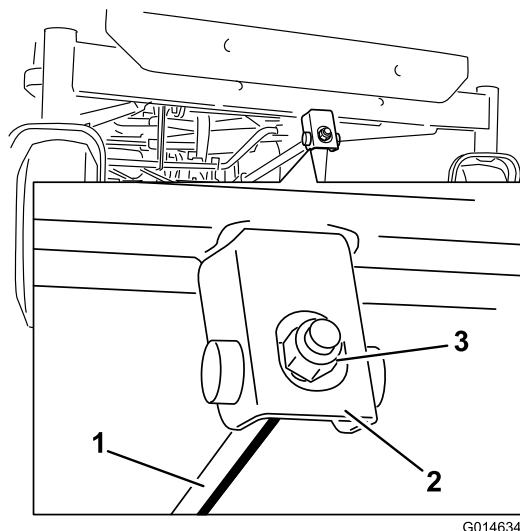

Figure 57
6. To adjust the front-to-rear blade slope, rotate the adjustment nut in the front of the mower (Figure 57).